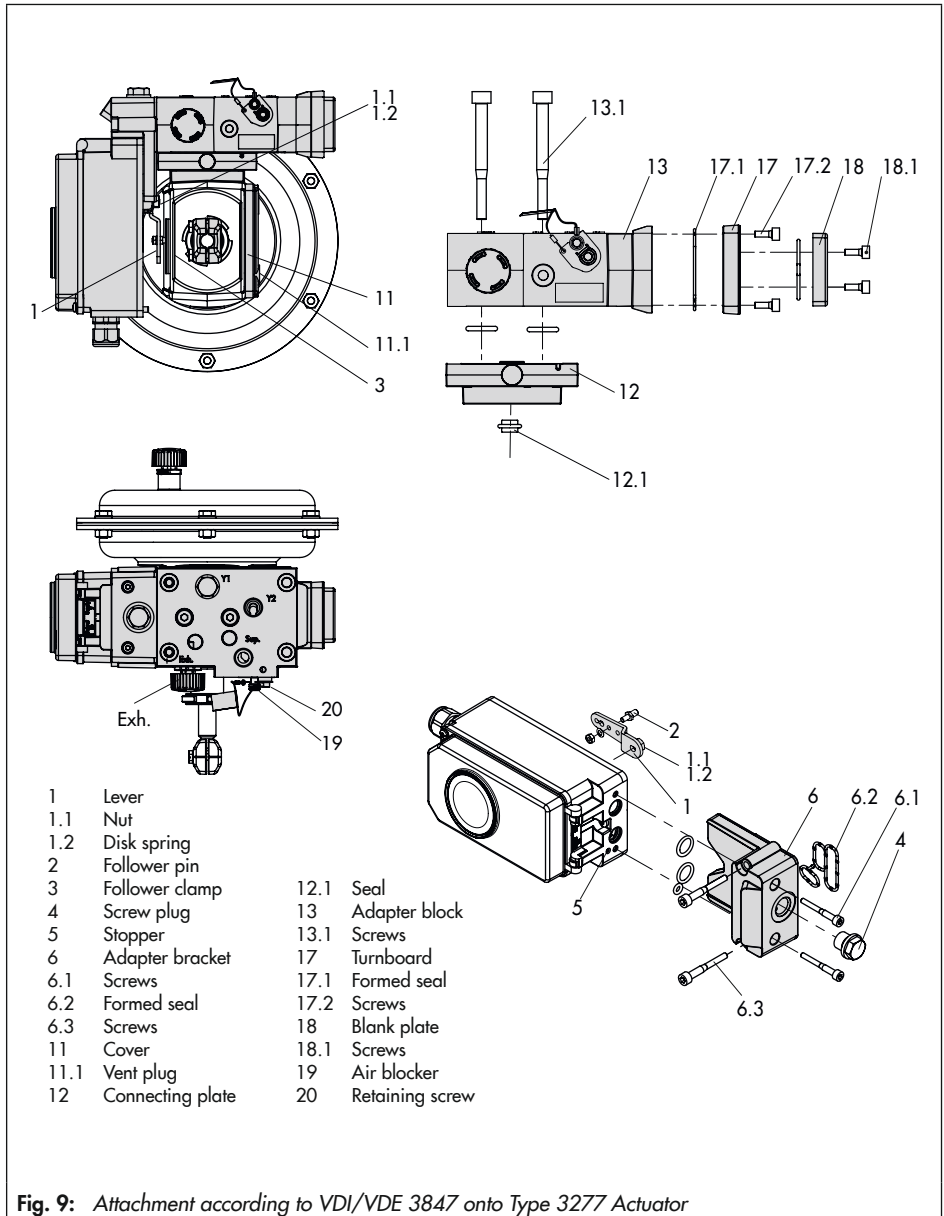

Fig. 9: Attachment according to VDI/VDE 3847 onto Type 3277 Actuator
→ Refer to Fig. 9
Attachment to Type 3277 Actuator (see Fig. 9)
Mount the positioner on the yoke as shown in Fig. 9. The signal pressure is routed to the actuator over the connecting plate (12), for actuators with fail-safe action "actuator stem extends" internally through a bore in the valve yoke and for "actuator stem retracts" through external piping.